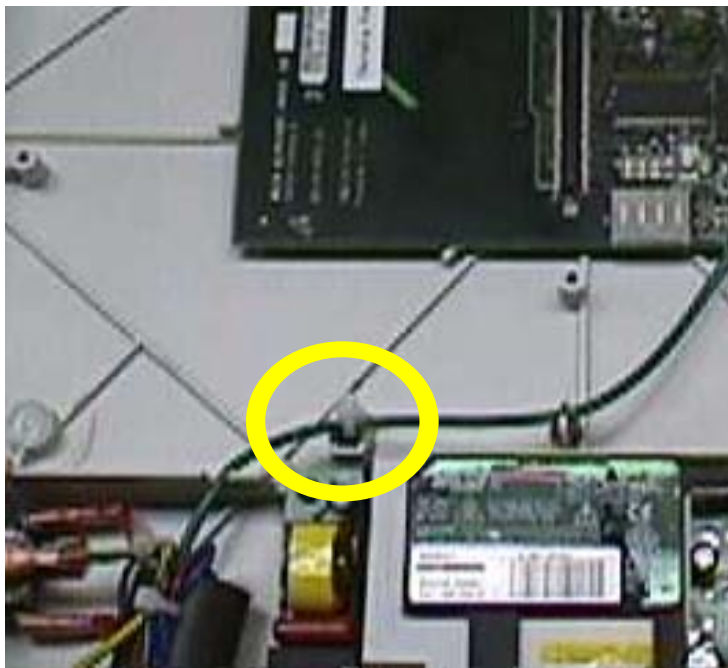

Figure 6
6. Fasten 740068 (long green/yellow wire) with a wire tie (761077-1). Circled area in picture below indicates wire tie location (Figure 6).